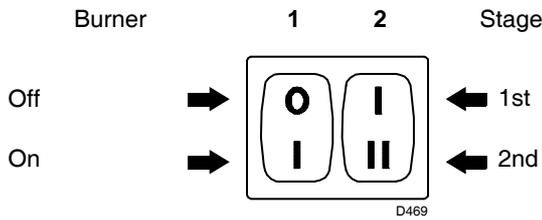
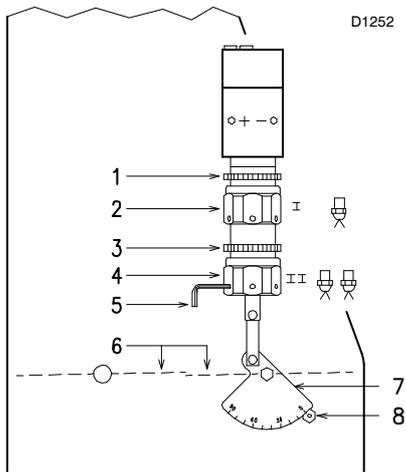

Fig. 20
Fig. 21
- Start the burner by closing the control devices and with switch 1) (page 18 Fig. 20) in the "ON" position. The pump must rotate in the direction of the arrow marked on the cover.
- The pump can be considered to be primed when the light oil starts coming out of the screw 3). Stop the burner: switch 1) (page 18 Fig. 20) set to "OFF" and tighten the screw 3).
Set switch 1) (Fig. 20) to "ON".
Keep the burner operating at 1st stage by setting the switch 2) (Fig. 20) to the 1st stage position. Opening of the air gate valves 6) (Fig. 21) must be adjusted in proportion to the selected nozzle: the index 8) (Fig. 21) must be aligned with the notch indicated on the graduated sector 7) (Fig. 21). This adjustment is achieved by turning the hex element 2) (Fig. 21):
Set switch 2) (Fig. 20 page 18) to the 2nd stage position and adjust the air gate valve 6) (Fig. 21) by turning the hex element 4) (Fig. 21), after having loosened the ring nut 3) (Fig. 21).
in order to facilitate adjustment of hex elements 2) and 4) (Fig. 21), use a 3 mm Allen key 5) (Fig. 21).